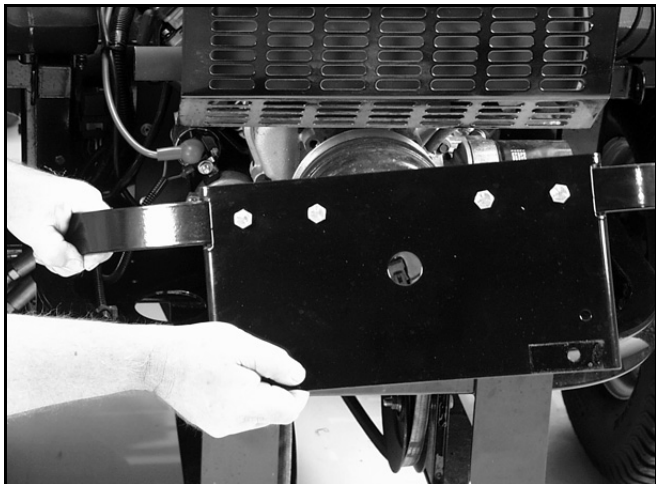

Figure 20
3. Remove the clutch guard and clutch guard brackets (Figure 20).